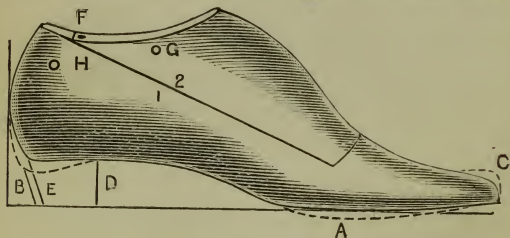

Fig. 68.—A Last.
The dotted lines in Fig. 68 indicate the parts of these lasts that are usually faulty ; but with a little skill and
Fig. 68 shows the proper shape of a last—it is not rounded too much at the bottom (A), nor does it project too much at B or C. A round bottom will make the toe turn up, and, while the boot is being worn, will cause undue strain on certain parts of the front or vamp part. Too much stuff at B will tend to throw the heel of the boot too far back, and also make it higher at the waist (D) than at the back, as shown by the two lines B and D. If the last has the dotted part at the heel rasped off, the